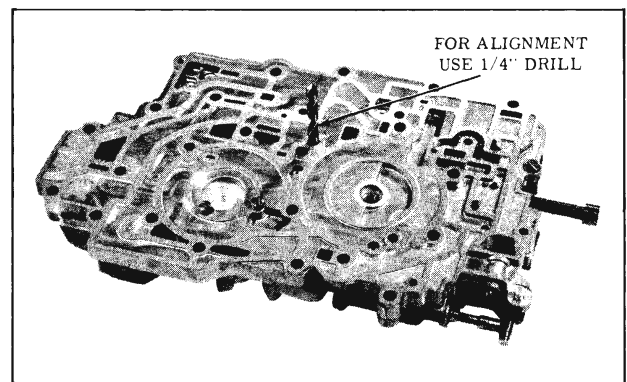

Fig. 3-289 Assembling Valve Bodies
3. Install (2) 1/4" check balls into ball seats at right side of primary body.
5. Place the channel plate on the spacer and install four attaching screws, (two flat head and two short filister head screws). The two filister head screws should be located within the circle on the left side. (Fig. 3-289)